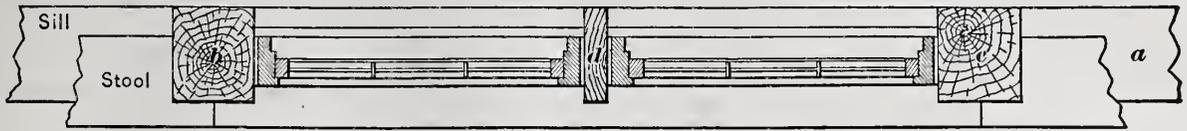
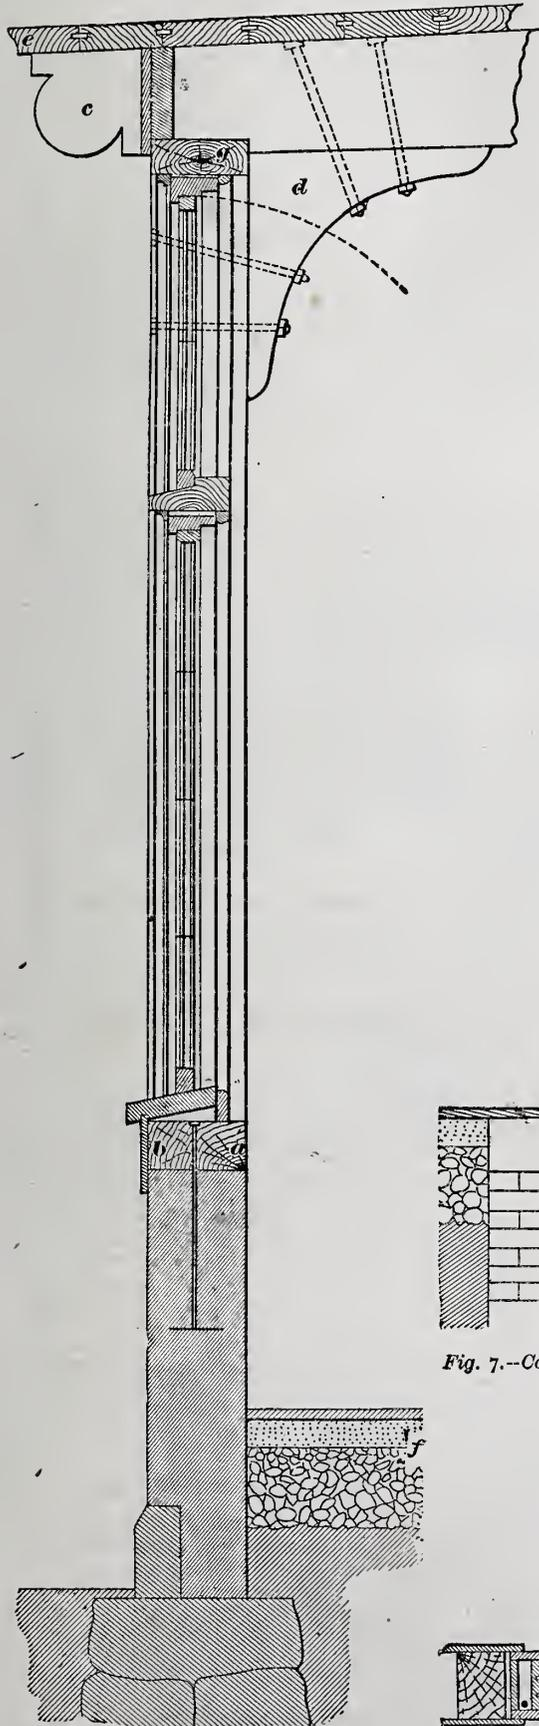

Fig. 4.—Horizontal Section, Main Window.—Scale, 1/2 Inch to the Foot.
Fig. 5.—Section Through Window.—Scale, 1/2 Inch to the Foot.
**Sill.**—To be of Georgia pine, 12 x 6 in., spliced in convenient lengths and anchored to brick wall at every bay. (See Fig. 4, a, and Fig. 5, a.) To be cased on outside to protect joint with brickwork. (See Fig. 5, b.)
**Main Posts.**—To be of Georgia pine, 12 x 10 in., set 8 feet apart on centers, tenoned into sill and tenoned at top to receive plate. (See Fig. 4, b and c.)
**Intermediate Posts.**—To be of Georgia pine, 3 x 12 in., tenoned in same way as main posts. (See Fig. 4, d.)
**Main Plate.**—To be 4 x 12 in. Georgia pine. (See Fig. 5, g.)